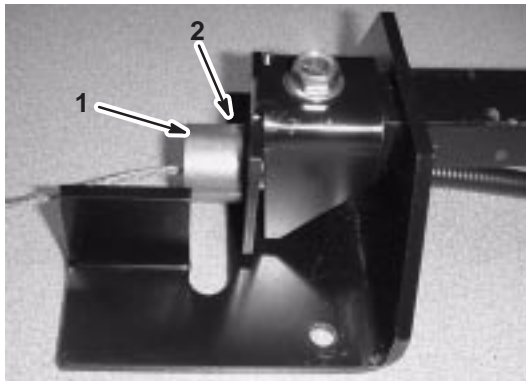

Figure 5
5. Set the cable into the right brake bar bracket, and secure it firmly in place with a locking collar and set screw assembly (Fig. 5). The cable must be securely held in the bracket with no movement at all.